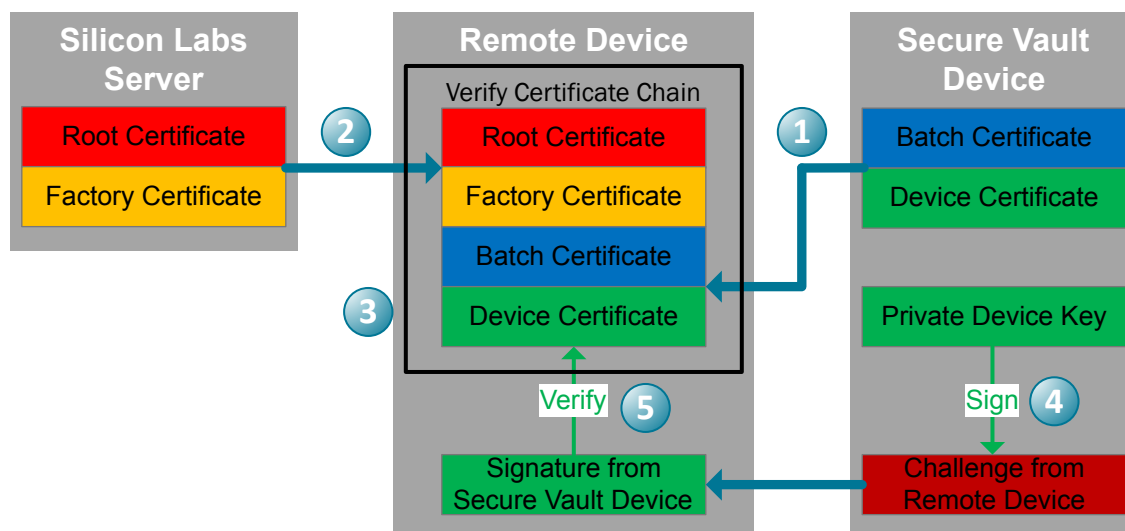

Figure 6.1. Remote Authentication Process
- Signed to a Silicon Labs Certificate Authority (CA).
- The device can prove that it possesses the private key associated with the public key in its certificate by signing the response to a given challenge (Figure 6.1 Remote Authentication Process on page 13 and section 7.3 Remote Authentication).